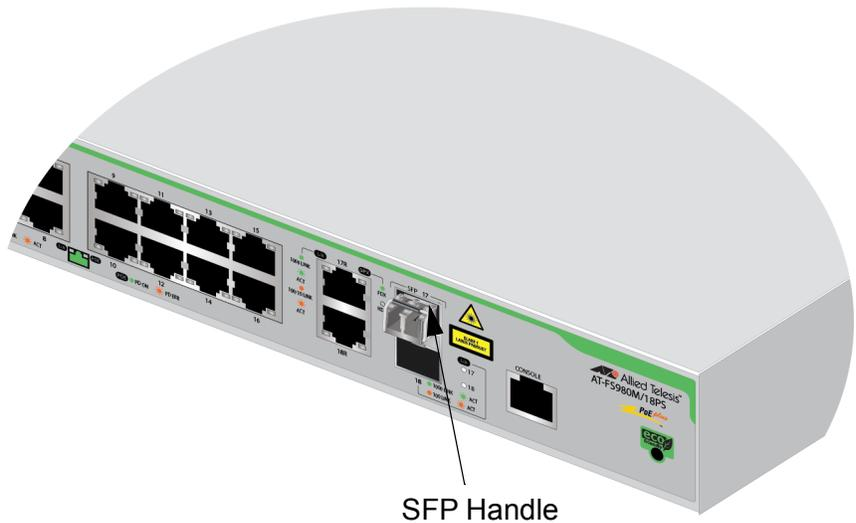

Figure 34. Positioning the SFP Handle in the Upright Position
4. If the transceiver is installed in the top slot, verify that the handle is in the upright position, as shown in Figure 34. If the transceiver is installed in the bottom slot, verify that the handle is in the down position.